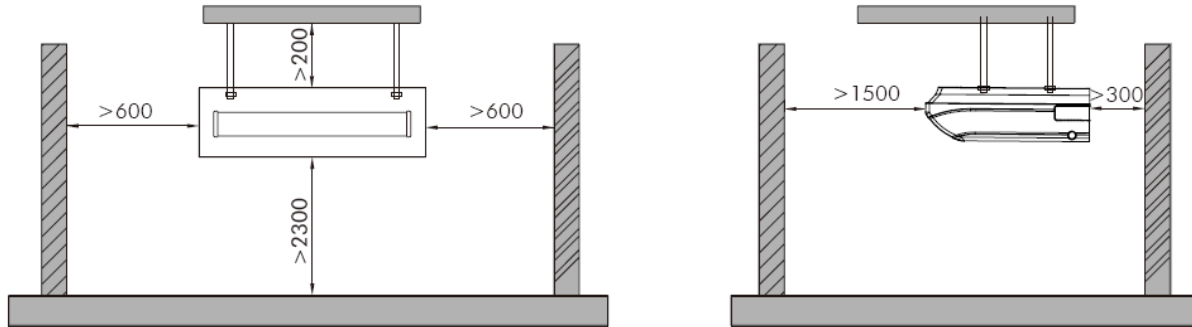

Figure 3-1-23
(3) Leave service space around the unit as required in Figure 3-1-23.